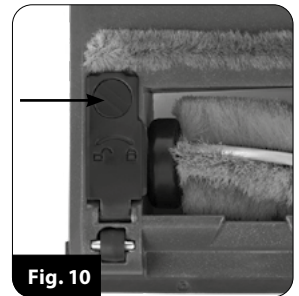

Fig. 10
2. Clean the mesh filter (12) and the motor filter (11) of dust with a fine brush. You can also wash them under running water, but dry them thoroughly before reassembling. Wipe the inside of the dust container with a damp cloth.
4. Regularly clean the rotary shaft of the electric brush. The shaft can be detached after disengaging the lock in the bottom part of the electric brush, indicated by an arrow in fig. 10. After cleaning the shaft, insert it into the electric brush and engage the lock.